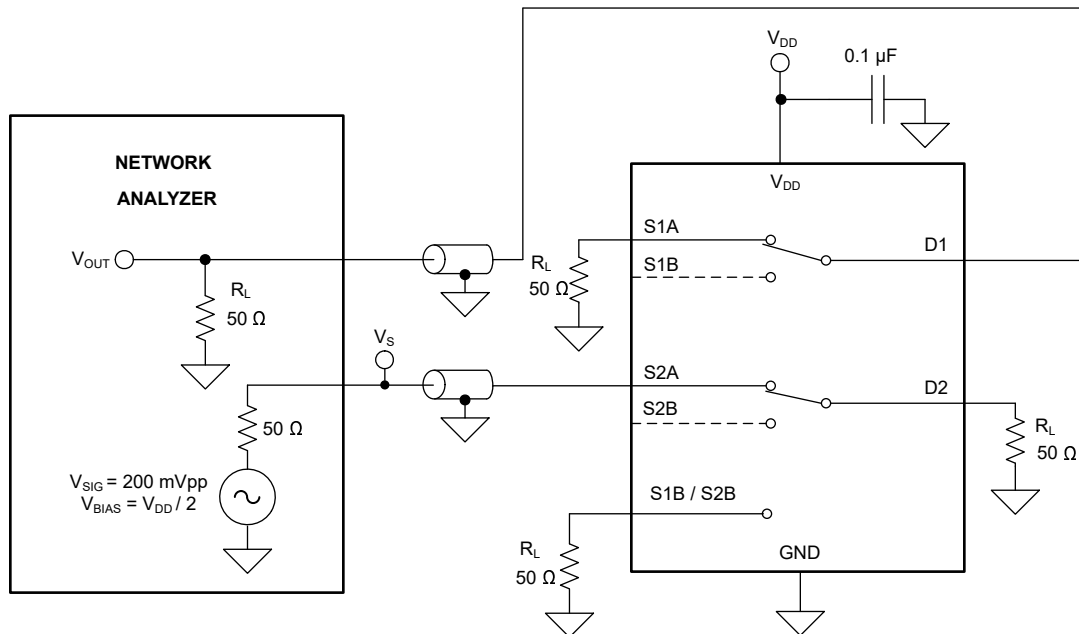

**Figure 6-13. Off Isolation Measurement Setup**
Off isolation is defined as the ratio of the signal at the drain pin (D) of the device when a signal is applied to the source pin (Sx) of an off-channel. Figure 6-13 shows the setup used to measure, and the equation used to calculate off isolation.